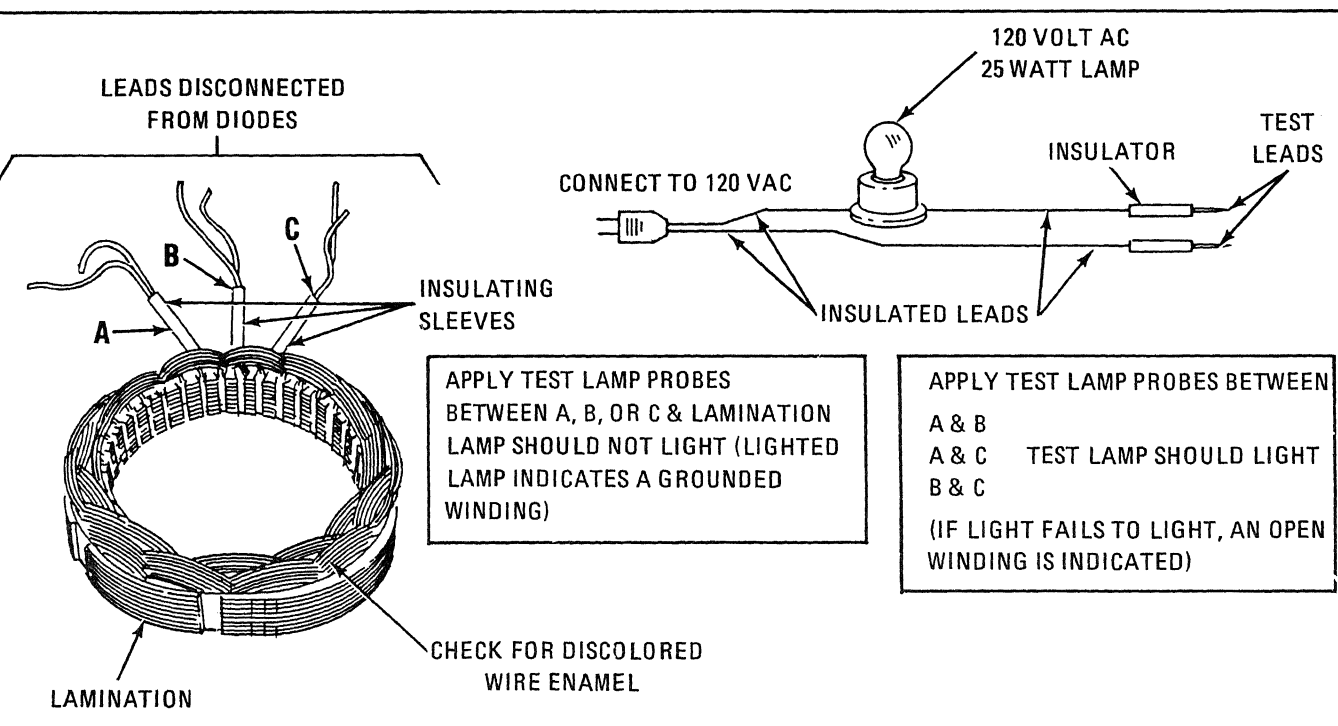

Figure 5-28.24. Stator Test Points
- (b) Separate leads as shown in figure 5-28.24.